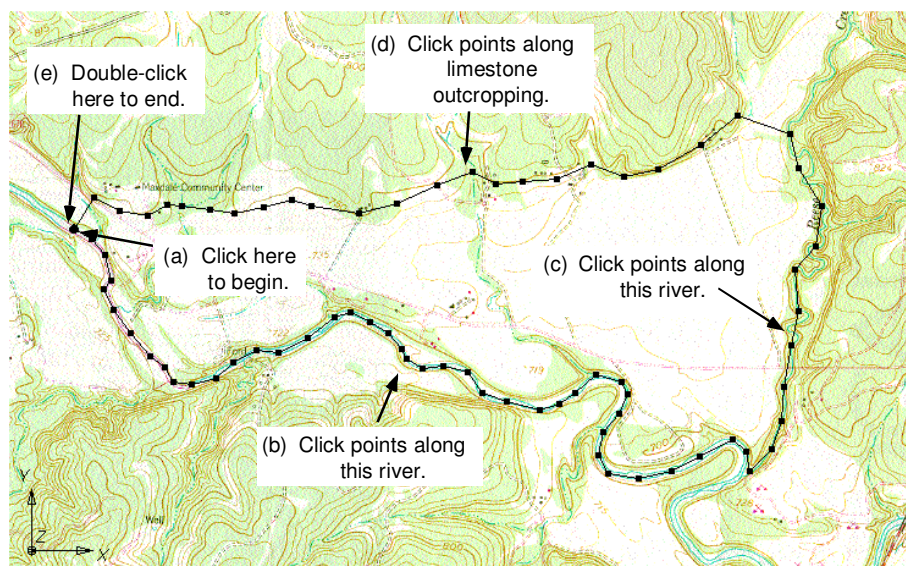

Figure 7-1 Creating the Boundary Arc.
2. Begin the arc by clicking once on the left (west) side of the model at the location shown in Figure 7-1.
along the top should coincide to the limestone outcropping as shown in Figure 7-1.